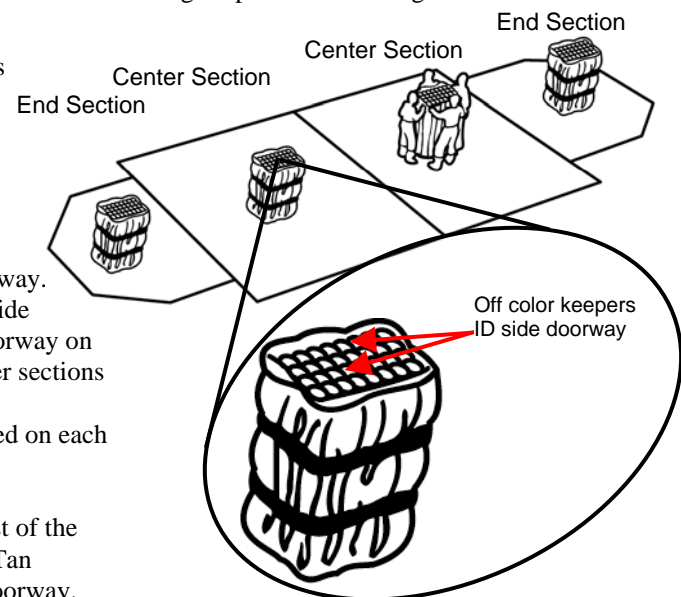

Figure 2-2 - Shelter Section Layout and Side Door Identification
5. Place one End Section on each end of the Ground Cover as shown in Figure 2-2.
6. Place the two Center Section on the center of the Ground Cover as shown in Figure 2-2.